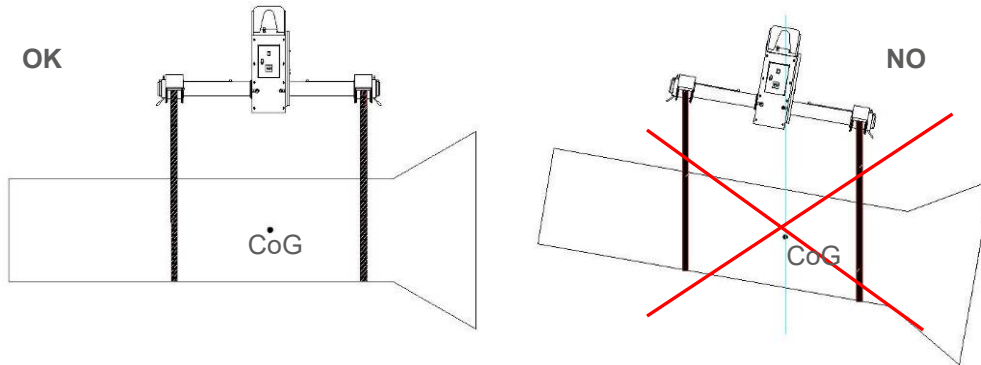

Figure 1
- Set up the straps position according to the lifted load length (see Figure 1).